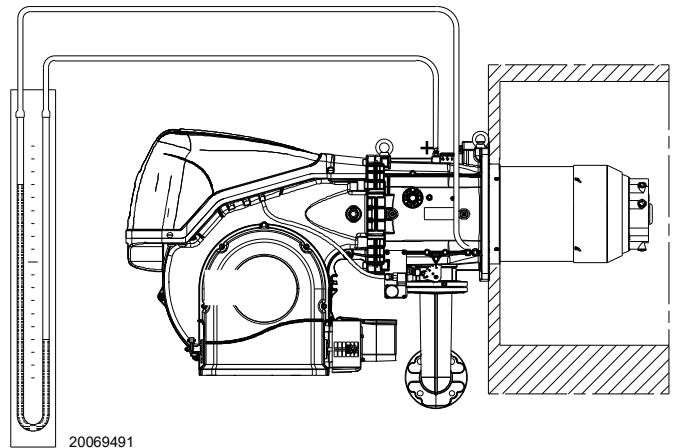

Fig. 25
- Fit a U-type pressure gauge or a differential pressure gauge (Fig. 25), with socket (+) on the gas pressure of the pipe coupling and (-) in the combustion chamber. The manometer readings are used to calculate MAX burner output using the Tab. K.